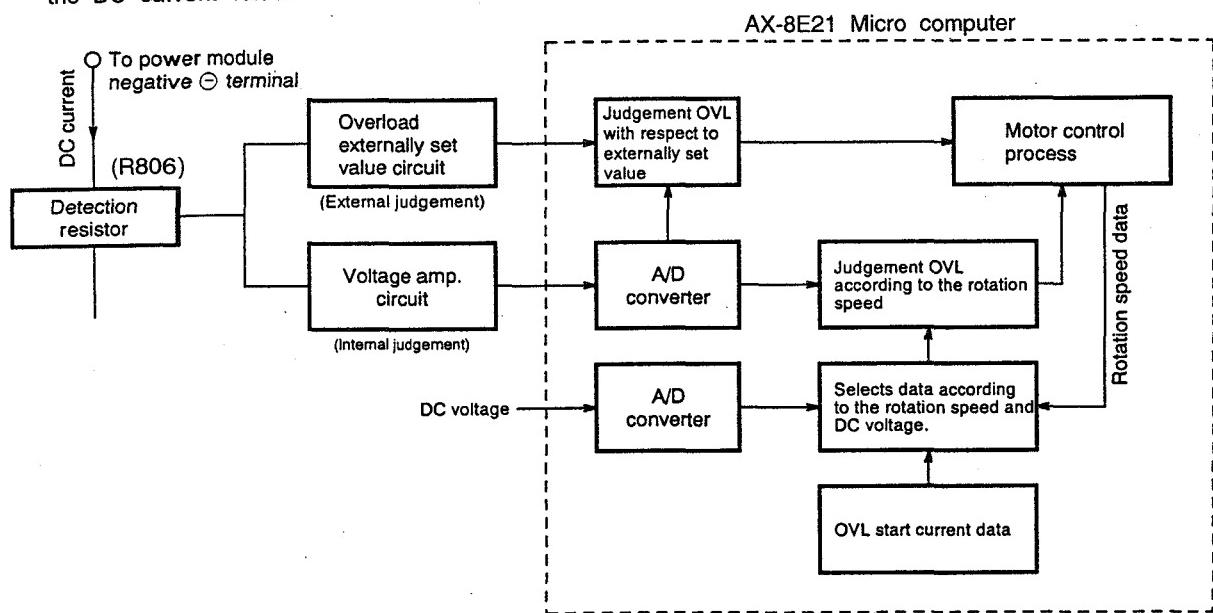
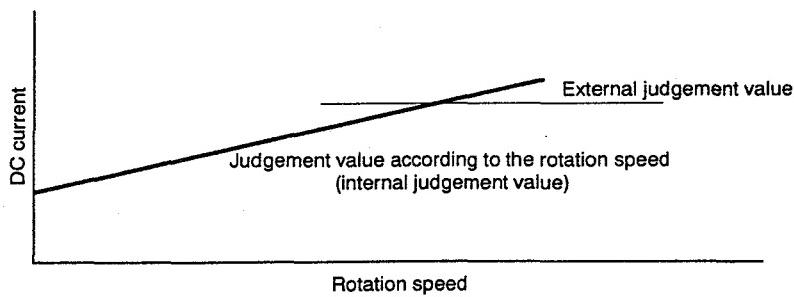

Fig. 8-4 Overload Control System Configuration
Fig. 8-5
- As shown in the figure, when current exceeding 18A flows, voltage at point A detected by detection resistor is input to \oplus terminal of COM (A). If it exceeds \ominus terminal voltage, which is set value, output pin voltage (point B) of COM (A) changes from Lo to Hi. Thus, Q1 is turned ON to stop drive circuit and, at the same time, voltage at point C changes from Hi to Lo to send Ip signal to pin ②2 of microcomputer (observed by pin ③0 of HIC) and microcomputer stops drive.
- Just before drive signal is output the next time, Microcomputer switches pin ②3 from Hi to Lo (observed by pin ③1 of HIC), so that \oplus terminal voltage $<$ \ominus terminal voltage to release memory function and return to initial state.
(2) Overload control circuit (OVL control circuit)
- Fig. 8-4 shows the overload control system configuration and Fig. 8-5 is a characteristic diagram of overload judgement values. There are two judgement methods-external judgement which compares the externally set value with the DC current value regardless of the rotation speed and internal judgement which compares the set value that varies according to the rotation speed programmed in the micro computer software with the DC current value.